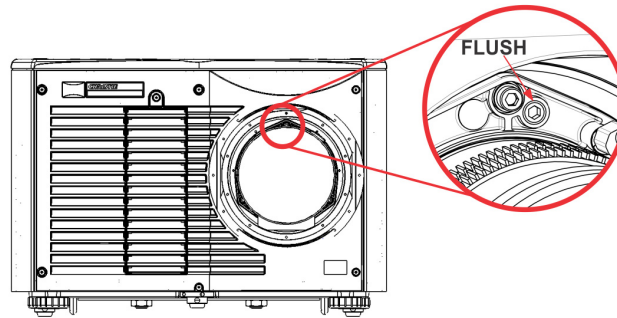

FIGURE 2-13
9. The original factory boresight can be recovered approximately by positioning the 3 setscrews, see Figure 2-12. Position the setscrews flush with the front face of the lens mount plate and in contact with the inner lens mount plate. Refer to Figure 2-13. This may require adjusting both setscrews and cap screws.